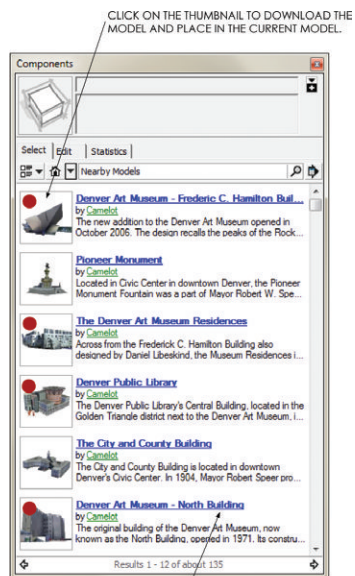

Figure 16.5 Import four models from the Nearby Models collection.
3. Click on the thumbnail icon to immediately download a model directly into the current SketchUp model. Find and import the models indicated with red dots in Figure 16.5.